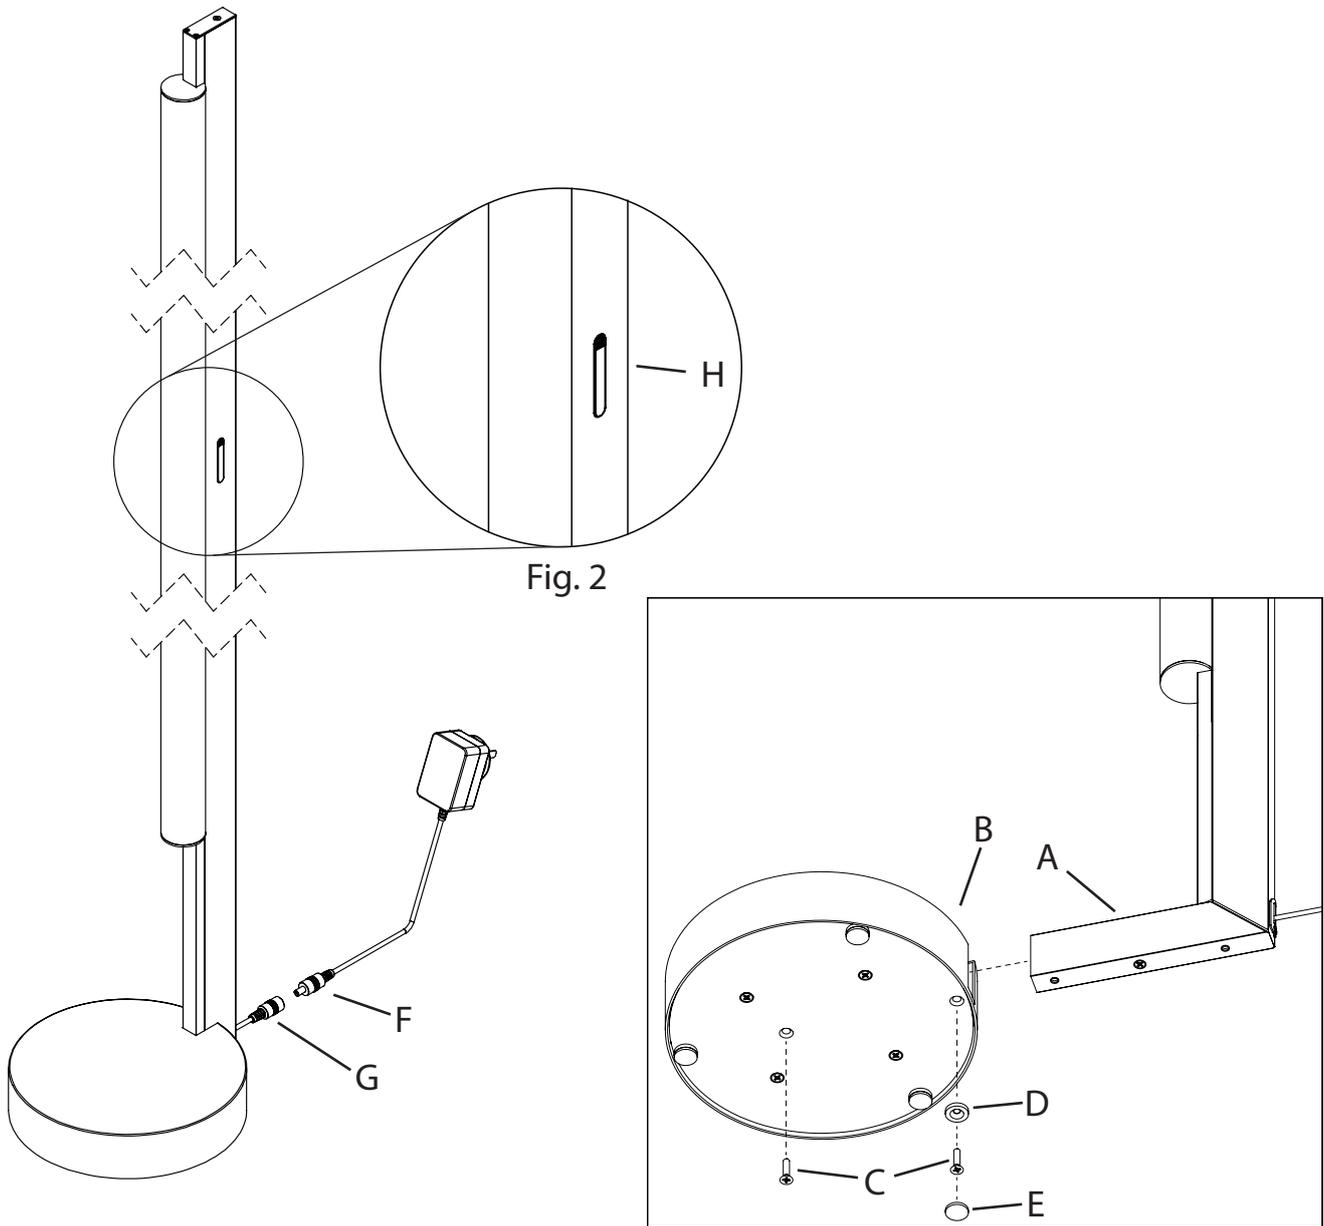

Fig. 1
1. Slide foot of lamp (A) into slot in base (B). For the front, secure with base screws (C) (Fig. 1). For the back, also use the washer (D), and cover with stick-on foot (E).
2. Connect power supply plug adapter (F) to lamp cord (G). Insert power supply plug into wall outlet.